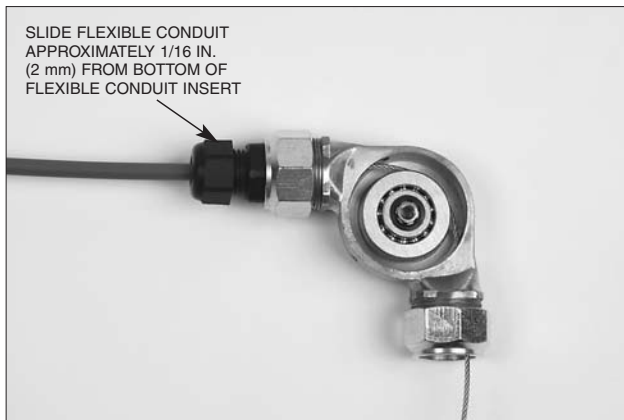

Figure 4-54.
7. Slide the flexible conduit into the strain relief until it is approximately 1/16 in. (2 mm) from the bottom of the flexible conduit insert. See **Figure 4-54**.